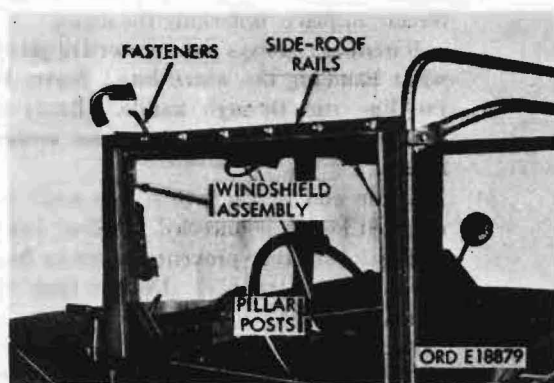

Figure 109. Disassembling cab top frame.
- (4) Disengage the side-roof rails from the windshield assembly and fold them in and down to the pillar posts (fig. 109).